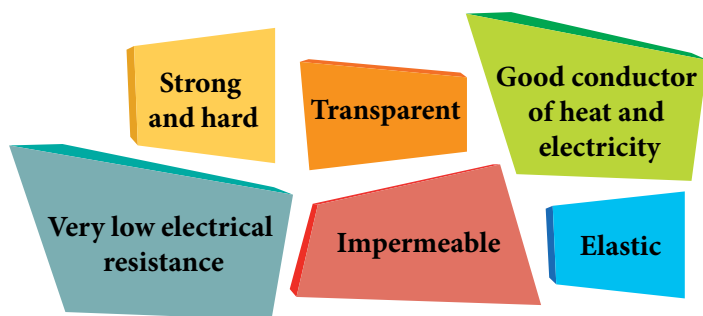

Figure 5.21 Physical properties of graphene
- Graphene is an extraordinary material with various distinctive characteristics that can be attributed to its physical properties. Let us explore the physical properties of graphene found in Figure 5.21.